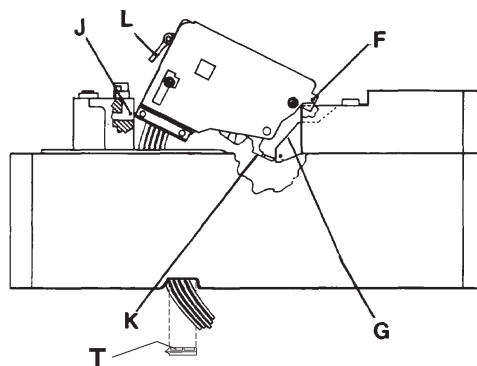

Fig. 3
6. **Shunt and Undervoltage Trip Installation:** Shunt Trip and Undervoltage Trip units must be delatched to install. When the device is delatched, there will be approximately 5/16 inch gap between the latch lever foot (K, Fig. 3) and the accessory case. (To delatch Shunt Trip, push on the center of label on top of accessory until device delatches.) Optional: If labels are found on trip unit, remove the small label covering the opening in the trip unit (J, Fig. 3), in the pole in which the accessory is to be mounted. Start the accessory into the breaker by tilting the line end of the accessory (F, Fig. 3) down at approximately 30° and lower the accessory into the breaker, guiding the latch lever foot (K, Fig. 3) under the edge of the line cover (G, Fig. 3), and the tab on the accessory case (F, Fig. 3), into the slot on top of the line cover near (G, Fig. 3). As the lever foot clears the line cover, rotate the accessory parallel with the breaker and lower into position while guiding the transfer link (L, Fig. 3) into the opening (J, Fig. 3) at the top of the trip unit. Be sure to remove all slack from the wire leads inside the breaker.